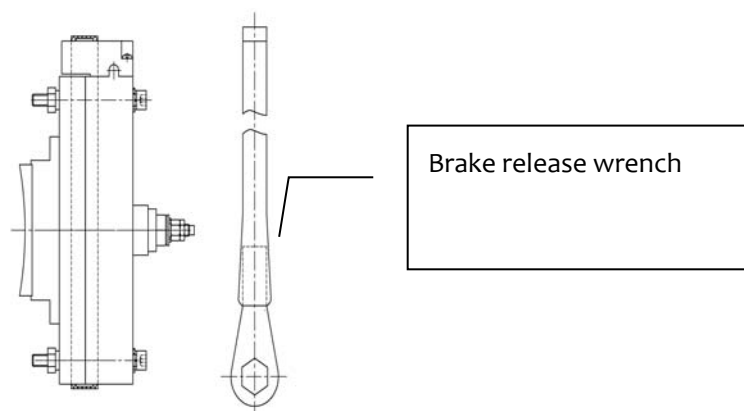

Fig.29 Schematic map of manual release device
- When an elevator is in operation, if any fault arises or the elevator user is locked up in the lift car as a result of power failure, the operator may use manual rolling gear to rescue the persons entrapped, as shown in Fig. 29 below.